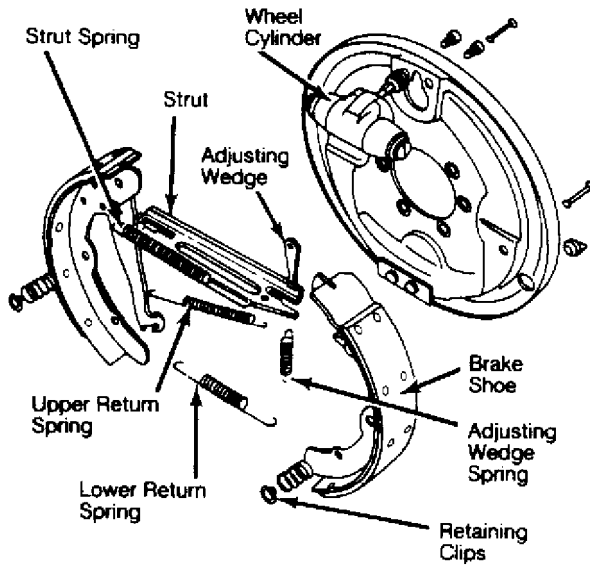

Fig. 7: Exploded View of Rear Brake Assembly (All Others)
1) After removing drum, remove retainer clips, hold-down springs and anchor pins. Remove lower return spring. Disconnect parking brake cable from lever. See Fig. 7.